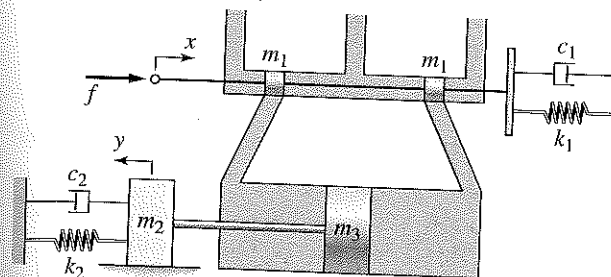

Figure P7.27
- 7.27 An electric motor is sometimes used to move the spool valve of a hydraulic motor. In Figure P7.27 the force  $f$  is due to an electric motor acting through a rack-and-pinion gear. Develop a model of the system with the load displacement  $y$  as the output and the force  $f$  as the input. Consider two cases: (a)  $m_1 = 0$  and (b)  $m_1 \neq 0$ .